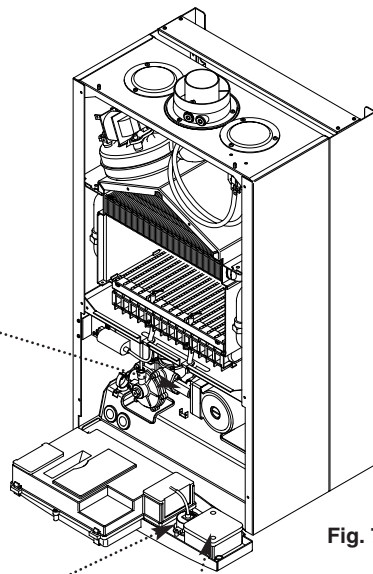

Fig. 72
2. Remove the timer cover and ease the timer wiring aside. Undo the screws securing the gauge retaining bracket (Fig. 72).